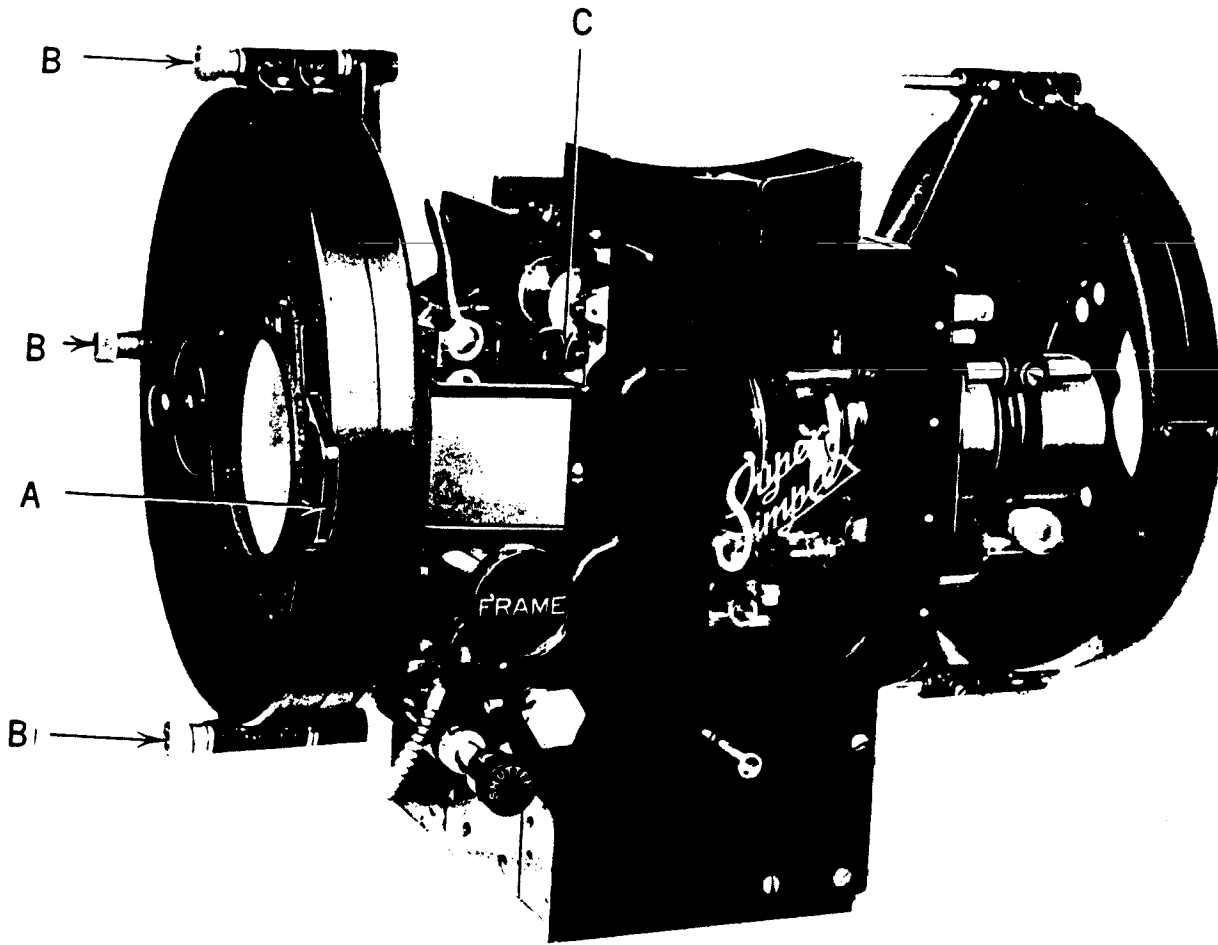

FIGURE 8.
**SECTION 32. SHUTTER TIMING - FRONT & REAR SHUTTER MODEL.** Turn the shutter adjusting knob until the screw head at "S" in Fig. 4 is located approximately midway in the slot. Remove lens. Remove the glass air deflector shown at "A" in Fig. 8. Remove spot sight box. Remove aperture plate. Remove rear shutter light cap. Loosen both hub clamp screws on both front and rear shutters, leaving them free to turn on their shafts. Turn both up in a vertical position.